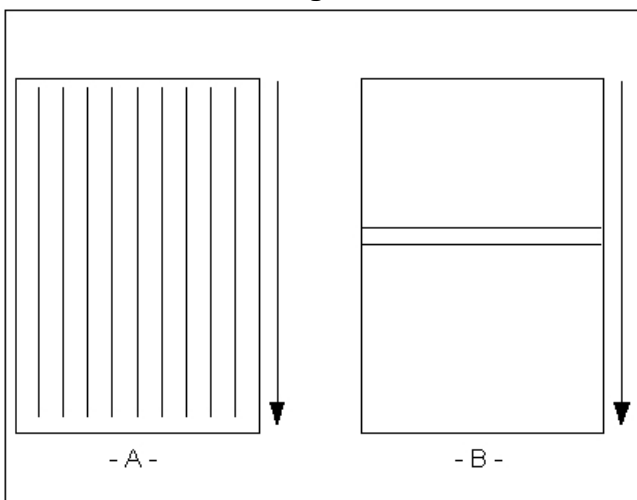

Fig 46
This is only a general reference guide. Different settings may be suitable as the warm up time, lamination time and materials change. (Figure 46 & 47)
3. Straight waves in output (Figure 46 A).
4. Indent waves in output after pull rollers (Figure 46 B).